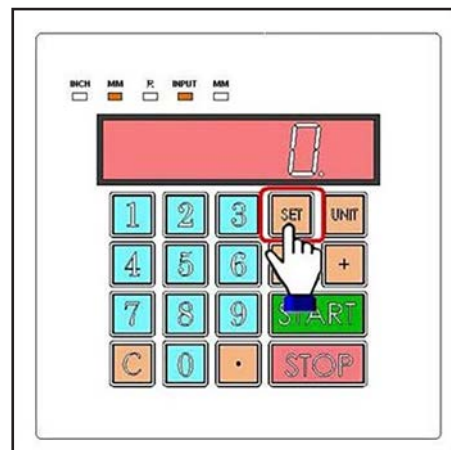

**Figure 36.** Pressing SET button.
1. Press SET button. Display will enter input mode and show the number 0 (see **Figure 36**).